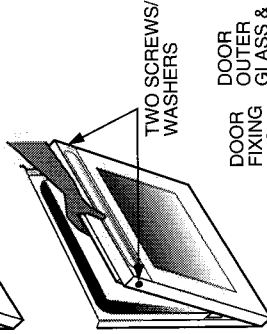

Fig. 2
3. Grip inner door panel and handle/outer glass assembly. Remove two screws and fibre washers (put to one side) as shown in Fig. 2.
Fit the handle/outer glass assembly back in position at the top ensuring the fixing tags on the handle/outer glass assembly. Fit inside the door inner panel while still holding door together refit the two screws and washers, see Fig. 2.